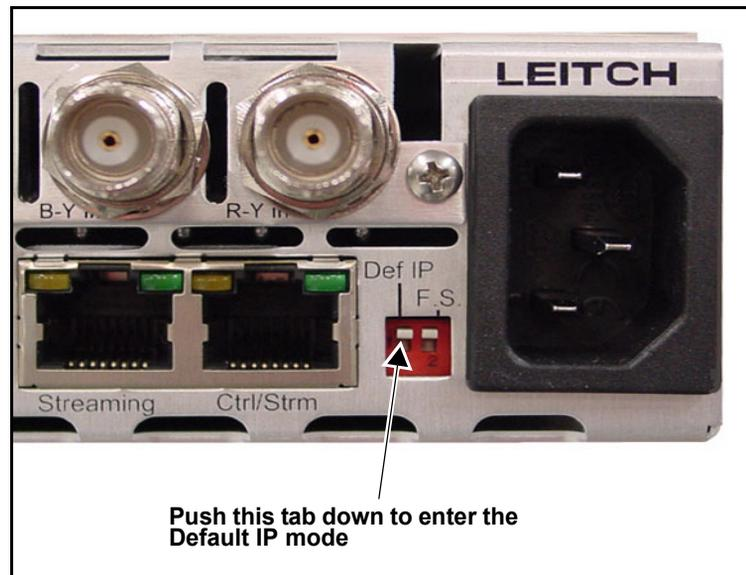

Figure B-1. Location of DEF IP DIP Switch
1. Push the **Def IP** DIP switch on the back of the unit to the *down* position (see Figure B-1).